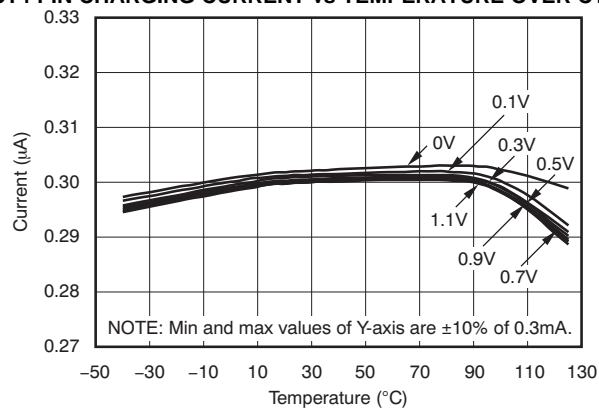

Figure 23.
- (1) Toggling  $\text{WDI}$  for a period less than  $t_{\text{WDT}}$  negatively affects  $I_{\text{VCC}}$ .
- (2) These specifications are beyond the recommended  $V_{\text{VCC}}$  range, and only define  $\overline{\text{RESETn}}$  or  $\text{RESETn}$  output performance during  $\text{VCC}$  ramp up.
- (3) The lowest supply voltage ( $V_{\text{VCC}}$ ) at which  $\overline{\text{RESETn}}$  or  $\text{RESETn}$  becomes active;  $t_{\text{RISE}}(\text{VCC}) \geq 15\mu\text{s/V}$ .
- (4)  $\text{CTn}$  (where  $n = 1, 2, 3$ , or  $4$ ) are constant current charging sources working from a range of  $0\text{V}$  to  $V_{\text{TH(CTn)}}$ , and the device is tested at  $V_{\text{CTn}} = 0.5\text{V}$ . For  $I_{\text{CT}}$  performance between  $0\text{V}$  and  $V_{\text{TH(CTn)}}$ , see Figure 23.